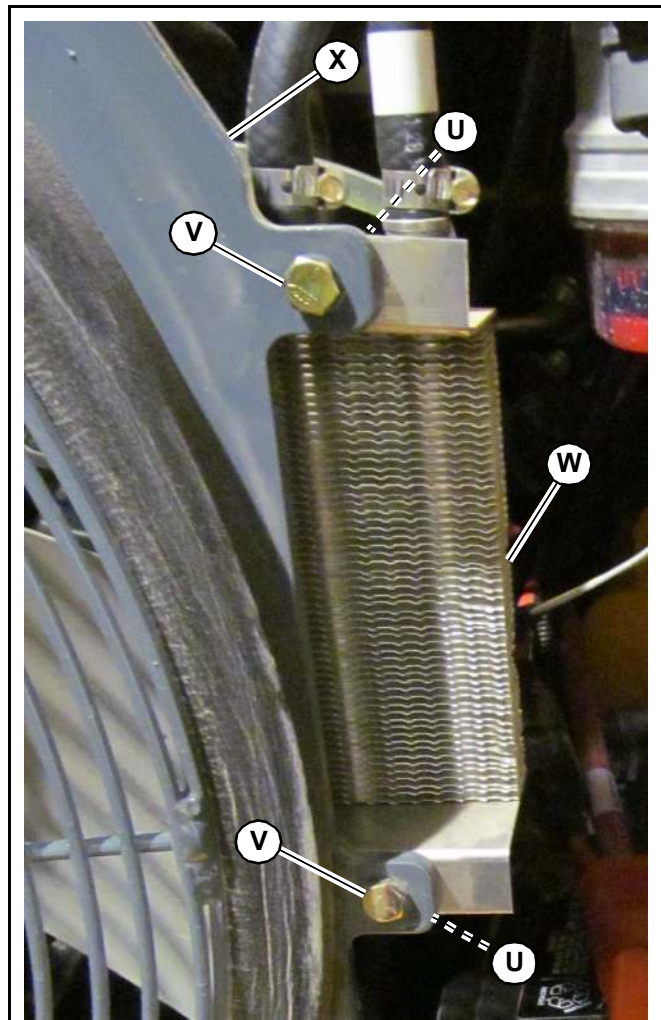

Fig. 300 – Remove Fuel Cooler
22. Remove two locknuts (U, Fig. 300), two cap screws (V), and fuel cooler (W) from the fan shroud (X). Remove fuel cooler and fuel hoses from the machine.